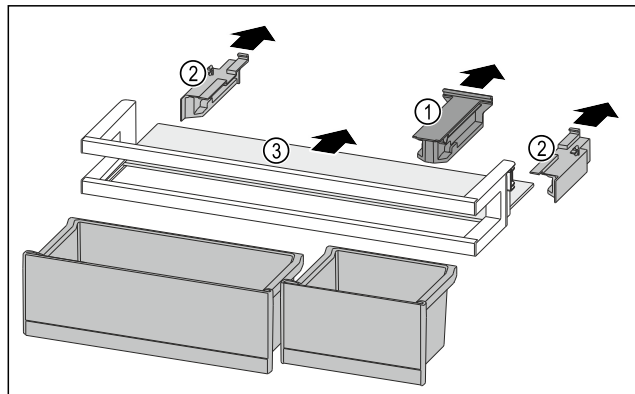

Fig. 228
- ▶ Pull off the holding part Fig. 228 (1).
- ▶ Pull off the side parts Fig. 228 (2).
- ▶ Remove the shelf Fig. 228 (3).